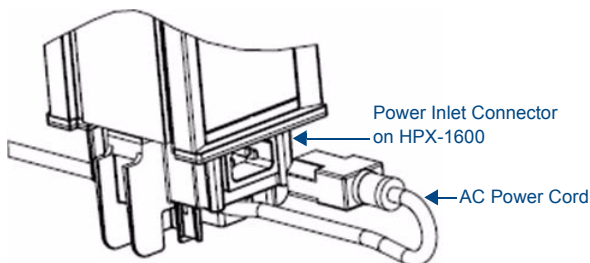

FIG. 2 HPX-1600 - Power Inlet Cord Removed
**CAUTION! Ensure that the AC Power cord is disconnected from IEC C-14 power inlet connector on the Hydraport Base Assembly prior to disassembly of the Hydraport Base assembly or installation of the HPX-AV100-CS+A Module (see FIG. 2).**